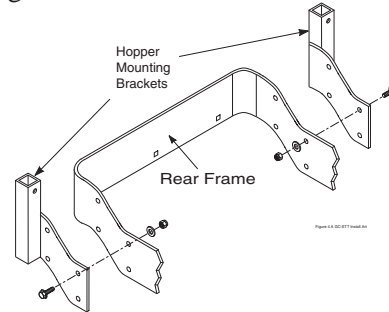

FIGURE 3-5
12. Install the hopper mounting brackets to the outside of the frame on the rear of the machine. See Figure 3-5.